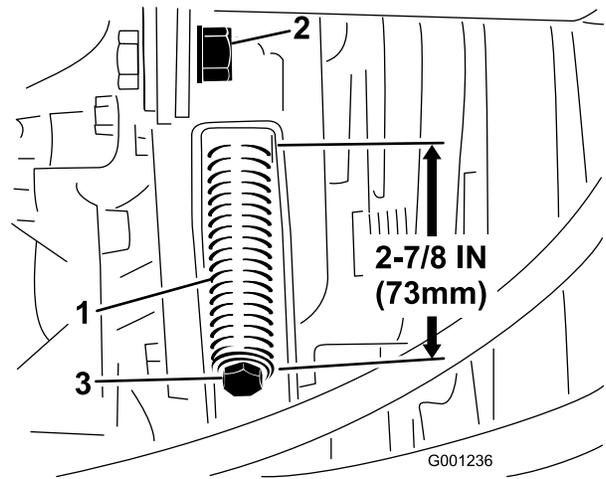

Figure 65
3. Loosen the tensioning rod jam nut (Figure 65).
4. Use a 1/2 inch wrench to tighten or loosen the belt tensioning spring (Figure 65). Adjust spring to a length of 273 mm (7/8 inches).
4. Using a 1/2 inch wrench, loosen the belt tensioning spring (Figure 65) all the way.
6. Install the new PTO belt and tension the pulley spring to 73 mm (2-7/8 inches) (Figure 65).
7. Tighten the jam nut (Figure 65) and close the hood.